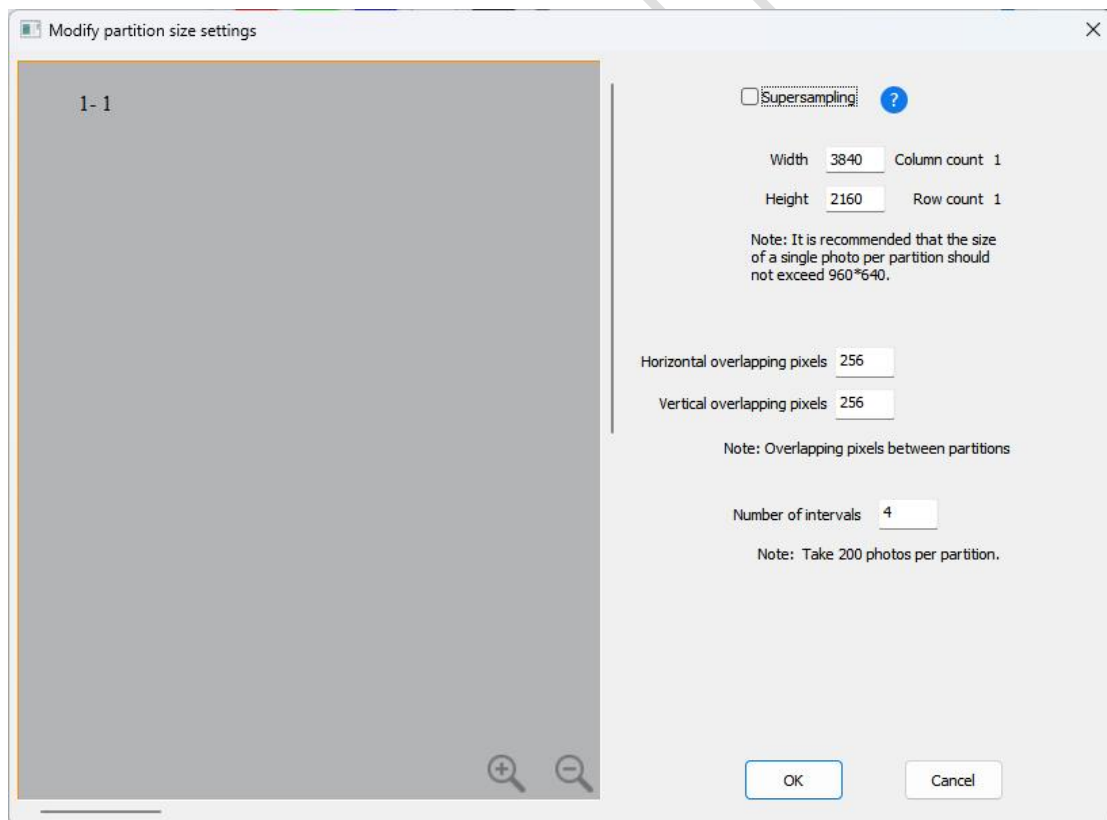

Fig.3-34 Modify the partition size
- 2) Once you have finished modifying the partition size, the number of intervals will automatically be calculated. Below the **Number of intervals** field, you can view a reminder telling you the number of photos that will be captured in each partition. See Figure 3-34.